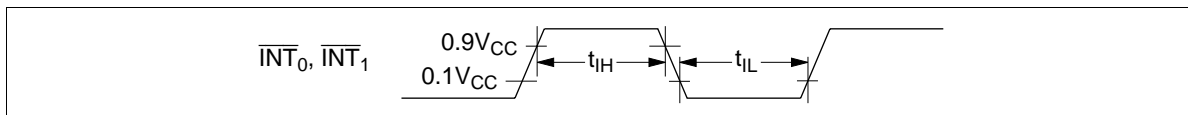

Figure 49 Interrupt Timing
4. See figure 49. The unit t_{cyc} is applied when the MCU is in standby mode or active mode.
6. See figure 49. The unit t_{subcyc} is applied when the MCU is in watch mode or subactive mode.